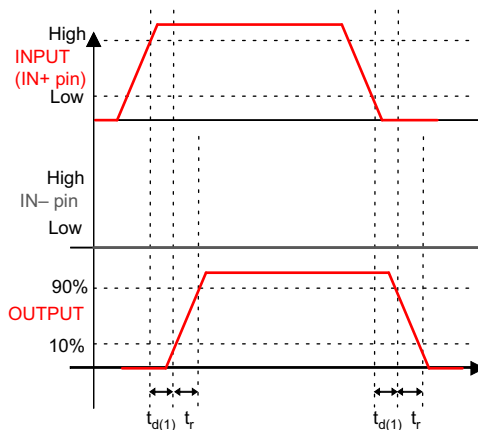
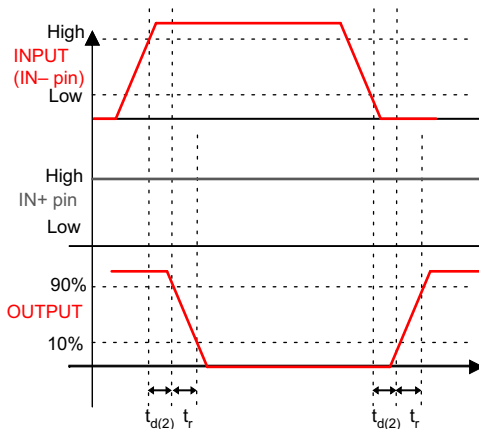
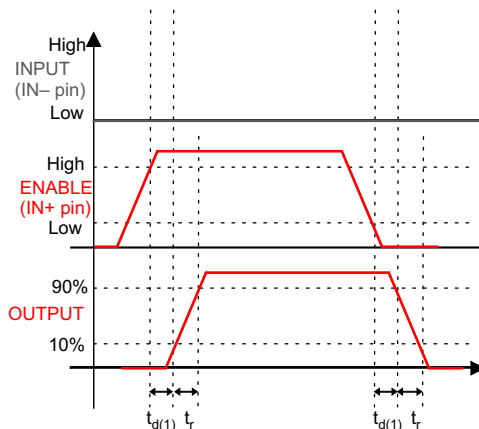

Figure 1. Non-Inverting Configuration (PWM Input to IN+ pin (IN- Pin Tied to GND), Output Represents OUTH and OUTL Pins Tied Together in the UCC27511A)
Figure 2. Inverting Configuration
Figure 3. Enable And Disable Function Using IN+ Pin
$V_{DD} = 12\text{ V}$, $T_A = -40^\circ\text{C}$ to 140°C , $1\text{-}\mu\text{F}$ capacitor from V_{DD} to GND. Currents are positive into, negative out of the specified terminal. See Figure 1, Figure 2, Figure 3, and Figure 4
(1) See timing diagrams in Figure 1, Figure 2, Figure 3, and Figure 4.